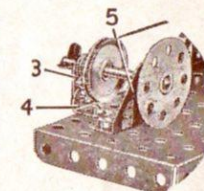

Fig. O.6a
The Bolts (1) are fitted with lock-nuts, so that the parts they attach are free to pivot. Bearings for a 2" Rod, the end of which is seen at (2), are provided by a Fishplate (3), Fig. O.6a, bolted to an Angle Bracket (4), and a Trunnion (5).